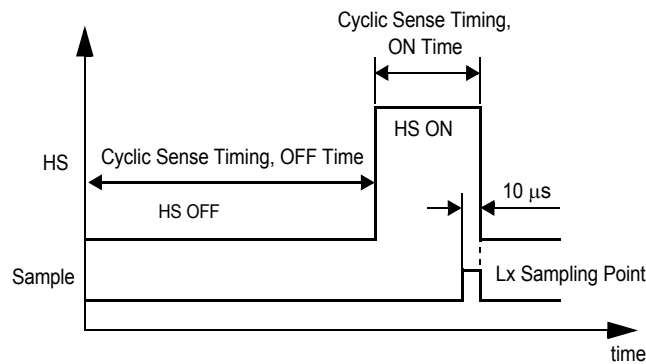

Figure 30. HS Operation When Cyclic Sense Is Selected
- TIM2—Selects an appropriate timing for sensing the wake-up circuitry or cyclically supplying devices by switching the HS on or off. TIM2 is selected when bit D3 is 1 (Table 32). Figure 30, page 53, describes HS operation when cyclic sense is selected. Cyclic sense timing characteristics are described in Table 34, page 53.